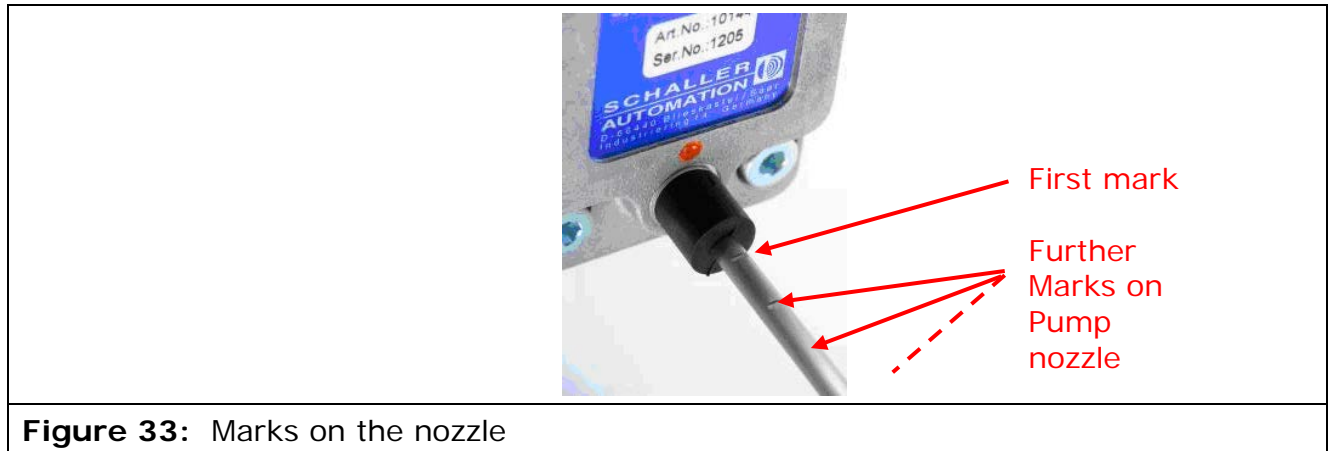

Figure 33: Marks on the nozzle
- Push in the nozzle to the first mark next to the nozzles tip (see Figure 33).